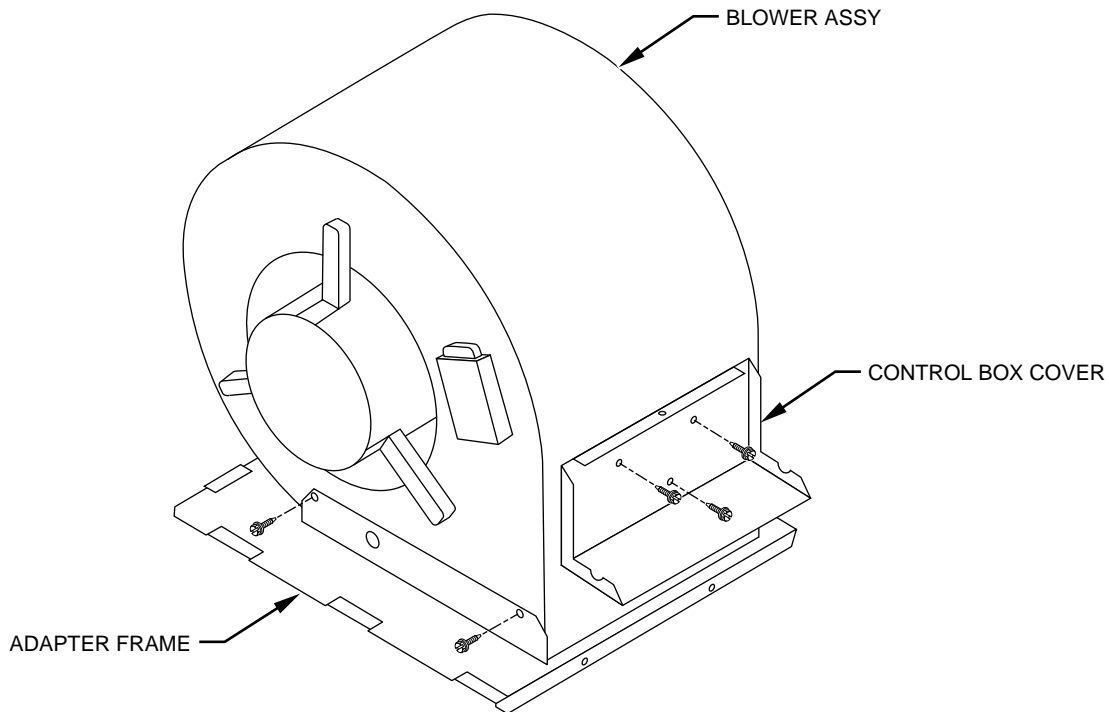

Fig. 1—Control Box Mounted to Blower Wrapper
2. Mount control box cover on blower wrapper using 2 No. 10 x 5/8-in. screws supplied in kit KCACK0201INT. Note that this may require drilling 5/32-in. diameter holes. (See Fig. 1.)
- e. Mount adapter frame, supplied in kit KCACK0201INT, to blower using 4 No. 10 x 5/8-in. screws. (See Fig. 1.) The mounting bracket should be flush with blower opening.